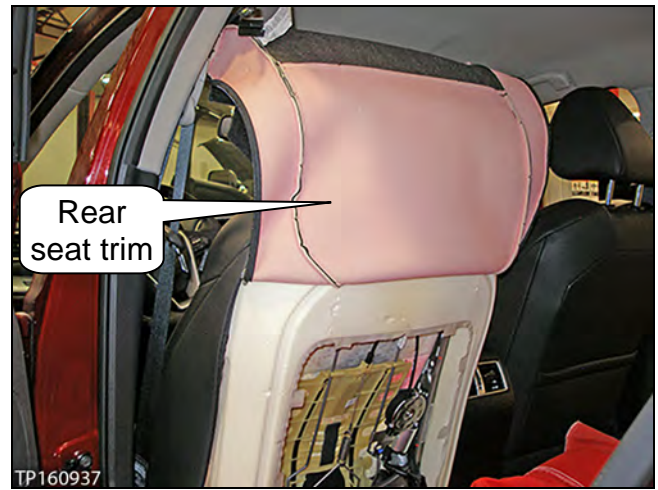

Figure 14
6. Drape the rear seat trim over the top of the seatback (see Figure 14).